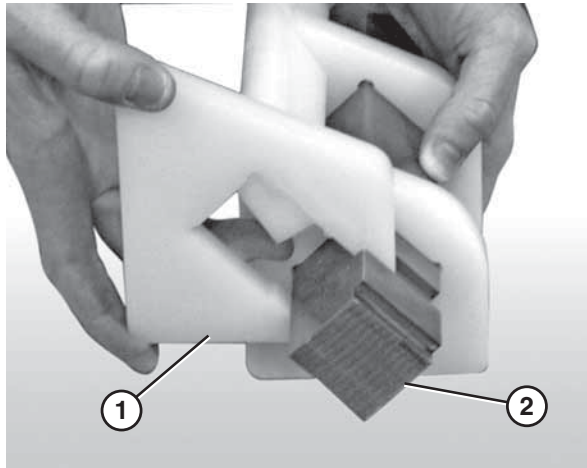

Figure 87
3. Attach the nose bar tracking pucks (**Figure 87, item 1**) to the nose bar drive post (**Figure 87, item 2**).